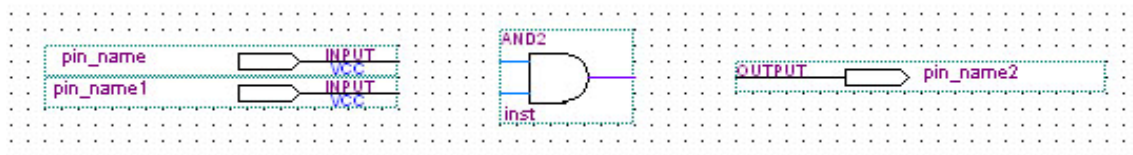

Figure 6-10
16. Add two input and one output pin to your schematic. Input and output symbols are available in the **C:/altera/91sp2/quartus/libraries/primitive/pin** directory. Position these symbols as shown in Figure 6-10.